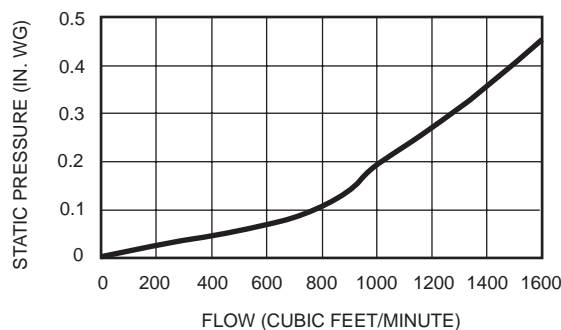

Fig. 38 — Barometric Relief Capacity
6. See Fig. 38 for barometric relief damper characteristics.